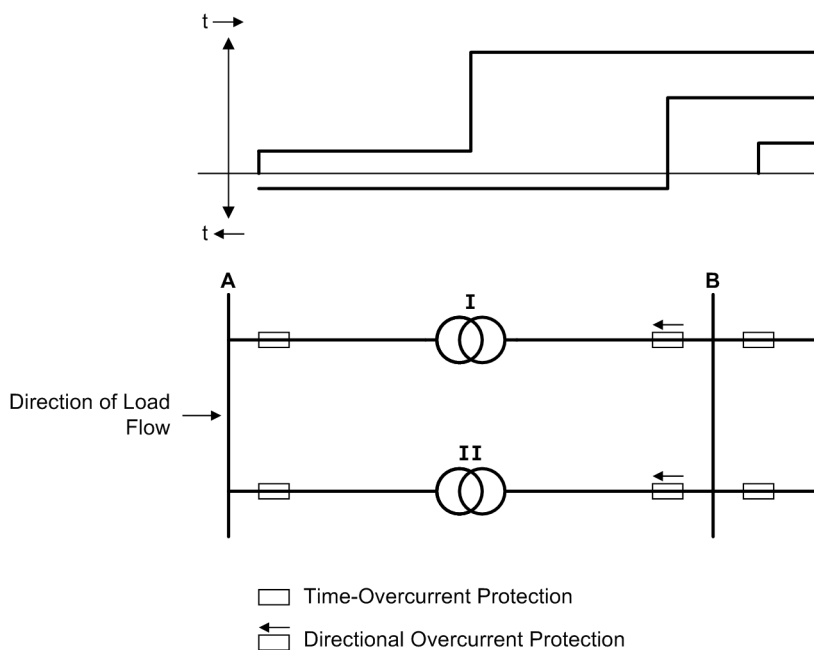

Figure 2-20 Overcurrent protection for parallel transformers
For parallel lines or transformers supplied from a single source (Figure 2-20), the second feeder (II) is opened on occurrence of a fault in the first feeder (I) if tripping of the breaker in the parallel feeder is not prevented by a directional measuring element (at B). Therefore, where indicated with an arrow (Figure 2-20), directional overcurrent protection is applied. Please ensure that the "forward" direction of the protection element is in the direction of the line (or object to be protected). This is not necessarily identical with the direction of the normal load flow, as shown in Figure 2-20.